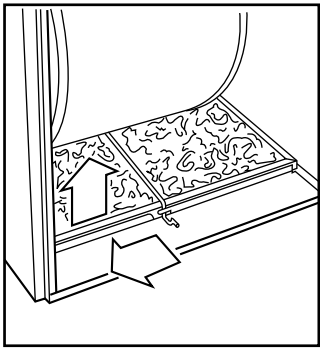

Fig. 23 - Sliding Filter Retainer Sideways
- (1.) Slide filter retainer sideways until it is free of latch. (See Fig. 23.)